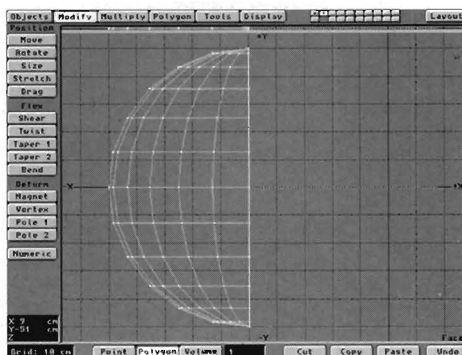
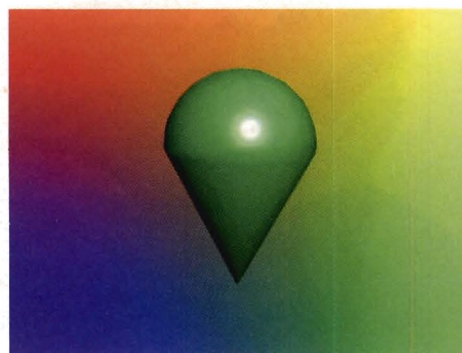

Figure 4
Figure 5
Once the progress window disappears you should have half of a sphere. Select the flat part of the hemisphere and delete (z) it (see Figure 4). Name (q) this polygon "Cone-Smooth" and hit Apply. Finally, go to layer 3 (3) and select cone from the Objects Menu. After hitting numeric (n), hit reset, then enter 24 in the sides window. End by pressing OK. Once again, select and delete (z) the flat part of the cone and name (q) the polygons "Cone-Smooth." Put layer 2 in the background (Alt 2), then press (Shift B) and select Add from the Booleans Menu. After the Progress window disappears you should have a object similar to Figure 5. Don't forget to Merge points before you save.